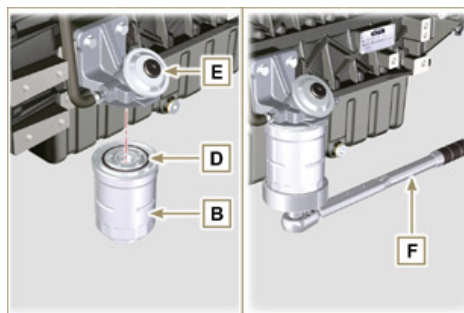

Fig 6.10
3. Loosen the cartridge **B** using the appropriate wrench **F** (**Fig. 6.10**).
5. Tighten the new cartridge **B** (**Fig. 6.10**) on the diesel fuel filter support **E** using the special wrench **F** (tightening torque of **17 Nm**).